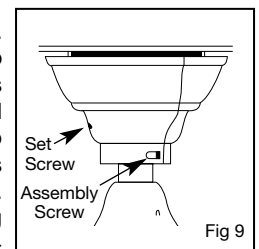

Fig. 9
- D.** Lift the fan by the motor housing, hook the hanger bracket onto the pin in the rubber bushing. **Make sure both ends of the pin are outside the hanger bracket.** See Figure 9. **FAILURE TO PERFORM THESE STEPS IN CORRECT ORDER MAY RESULT IN FAN FALLING.**
Assemble canopy halves around pipe. Screw together loosely using two screws provided in parts bag. (Brass and antique brass canopies are shipped assembled.) Position canopy close to ceiling. Tighten both assembly screws and SCREW IN the canopy set screw. See Figure 9. **NOTE:** If a Vaulted Ceiling Mounting Kit is used, follow the canopy instructions provided with the kit.